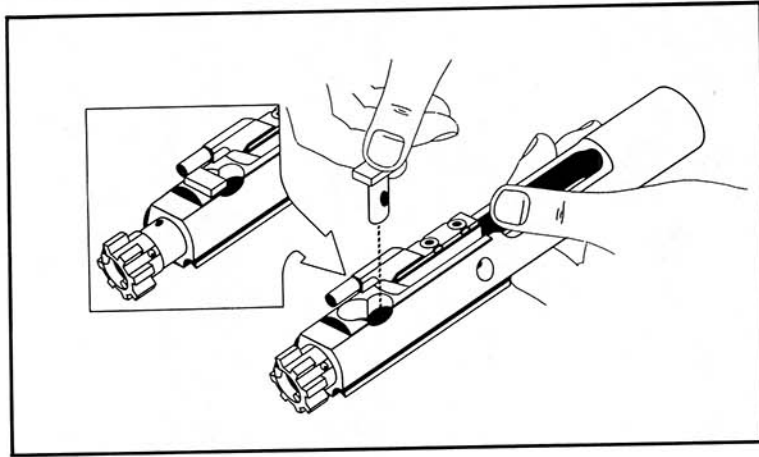

Figure 2-5 Remove Cam Pin
- f. Rotate the bolt until the cam pin is clear of the bolt carrier key. Rotate the cam pin one quarter turn and remove it from the bolt carrier, see Figure 2-5.